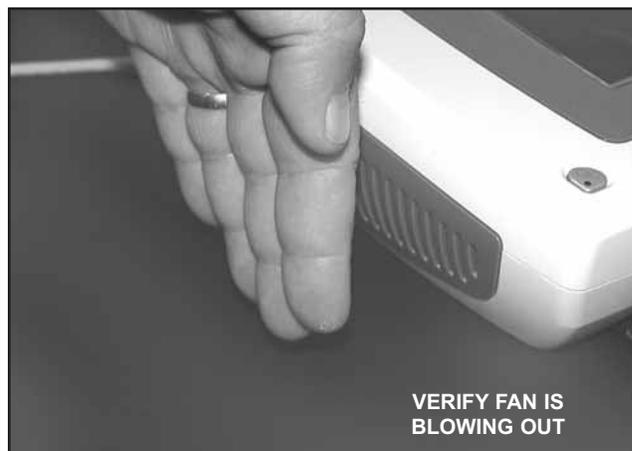

FIGURE 5.2
4. Place hand at the back of unit to verify fan is blowing out. See Figure 5.2.